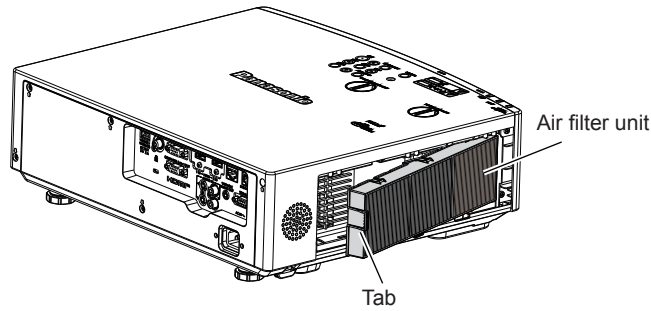

Fig. 1
**1) Attach the air filter unit to the projector. (Fig. 1)**